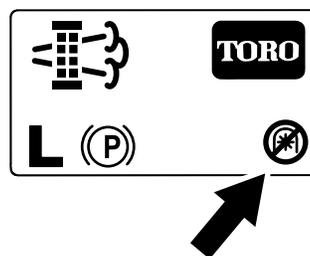

Figure 49
**Note:** The Home screen displays the PTO disabled icon (Figure 49).
**Note:** The Home screen displays the PTO disabled icon; refer to Figure 49 in Parked Regeneration Messages \(page 34\).